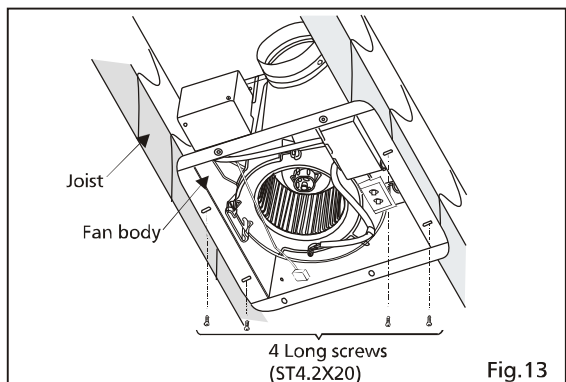

Fig.13
2. Secure 4 long screws (ST 4.2X20) at flange of frame. (Fig. 13)